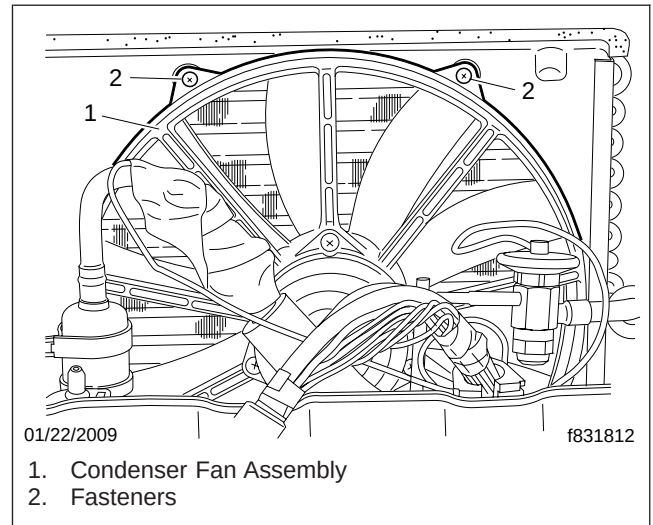

Fig. 4, Condenser Fan Assembly Installation
24. Lift the condenser fan assembly up. Disconnect the wiring harness from the condenser fan motor. See Fig. 4.